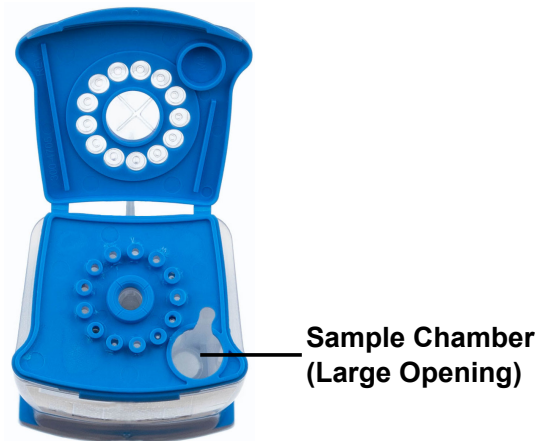

Figure 7. Cartridge (Top View)
3. To transfer the patient specimen to the cartridge, squeeze the bulb of the transfer pipette completely again to empty the contents of the pipette into the large opening (Sample Chamber) in the cartridge shown in Figure 7.